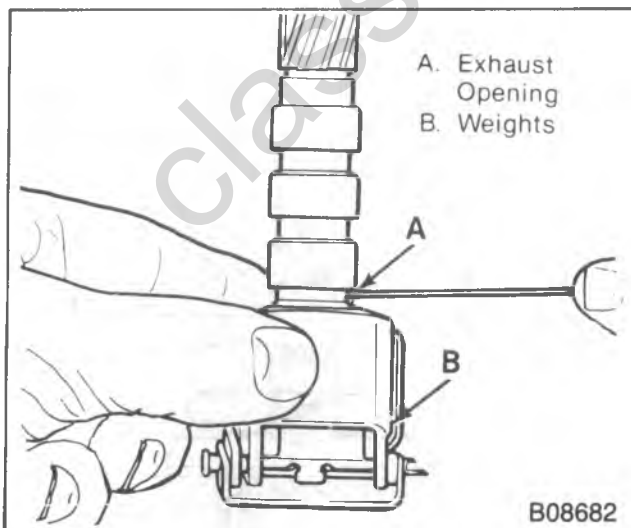

Figure 49 — Measuring the Governor Valve Exhaust Opening
- Valve exhaust opening. With the weights held all the way inward, the opening should be 5.1 mm (0.020-inch) (figure 49).